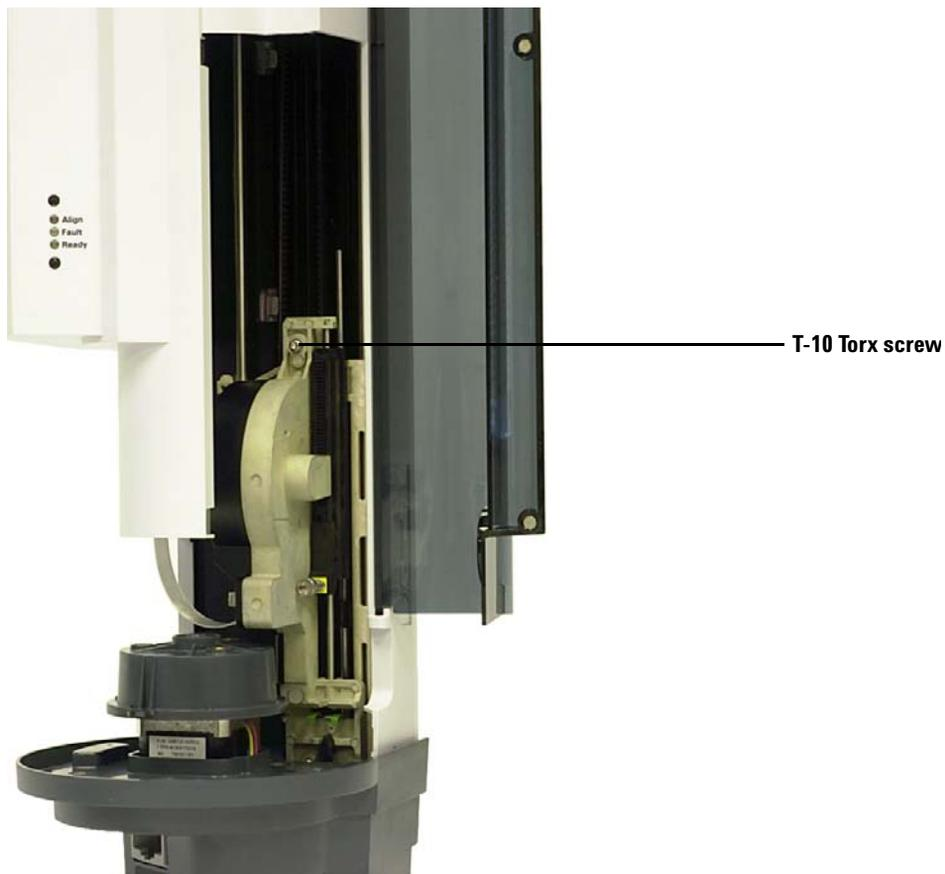

Figure 99 Removing the top T-10 Torx screw on the syringe carrier assembly
- 7 Completely loosen and remove the T-10 Torx screw at the top of the syringe carrier assembly (Figure 99).